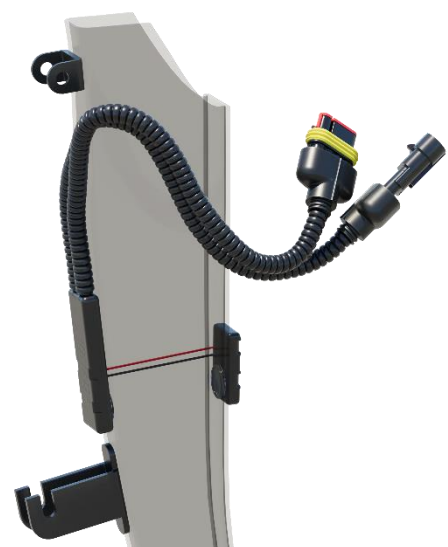

Figure 109
1. Changing the address of the sensor is possible only when it is working in normal mode. The program address of the sensors on the tube changes immediately after connection. The open sensor is renumbered on the standard bracket or by placing it in a certain way (see Figure 109) with the condition that direct light rays will not enter the optical channel of the sensor (the space between the glass).